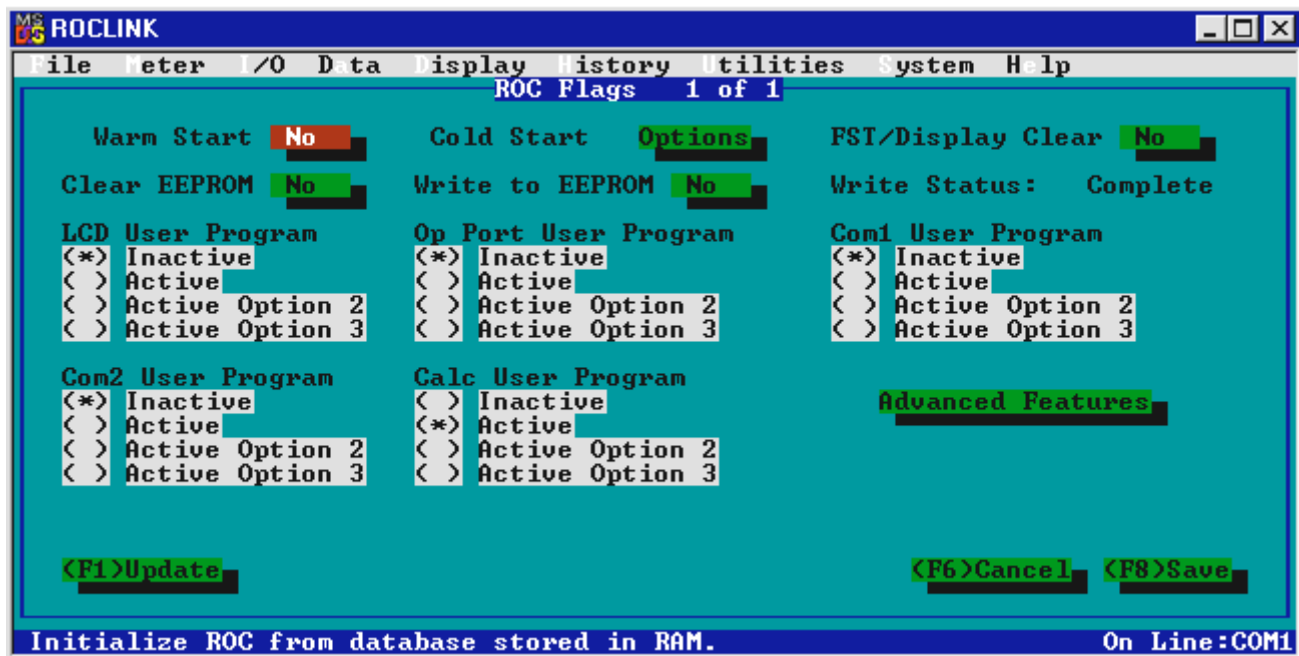

Figure 4. ROC Flags for a ROC 300-Series with a FlashPAC
8. To restart the program in the event the program becomes inactive such as after a cold start, select **Flags** from the System menu to display the ROC Flags screen similar to the screen shown in Figure 4.